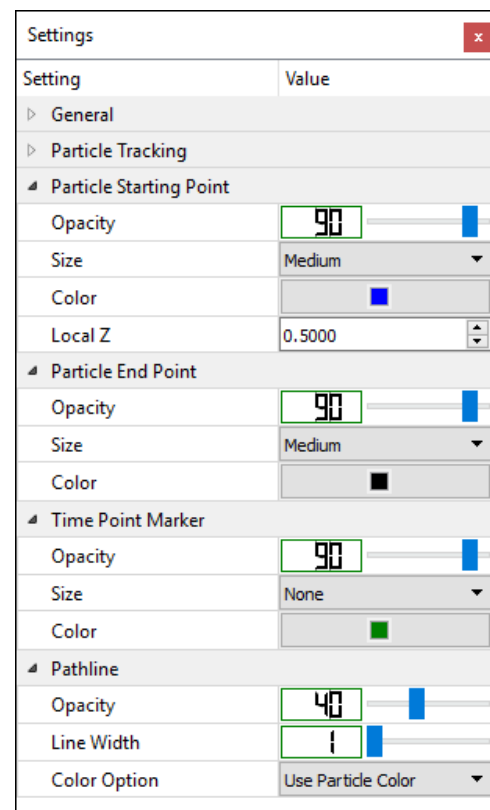

Figure 134. The Particle Starting Point, Particle End Point, Time Point Marker, and Pathline groups of the Settings window for MODPATH
- Click the mouse at the desired location on the map to add a particle. The vertical coordinate of the particle is defined by $z = z_{bot} + z_L \cdot (z_{top} - z_{bot})$, where z_{bot} and z_{top} are the elevations of layer bottom and top, respectively, and z_L is the local vertical coordinate defined by Local Z (see Figure 134) in the settings window.
3. Particle Starting Point (Figure 134)
4. Particle End Point (Figure 134): particle end points are displayed as diamonds on the map viewer, and they represent the particle stop locations.
5. Time Point Marker (Figure 134)
6. Pathline (Figure 134)